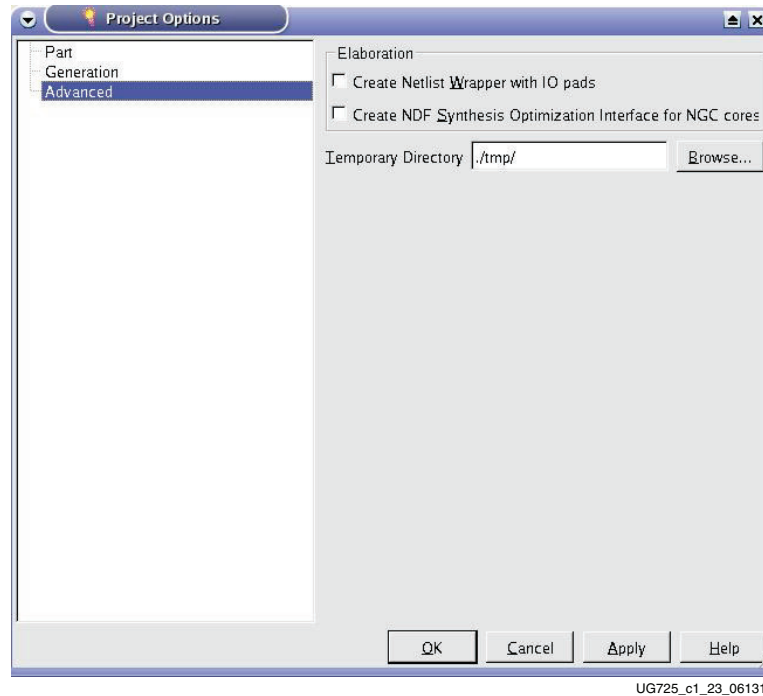

Figure 1-23: Advanced Options
- In the Project Options window, under **Advanced**, leave all settings unchanged. Figure 1-23 shows the correct settings.